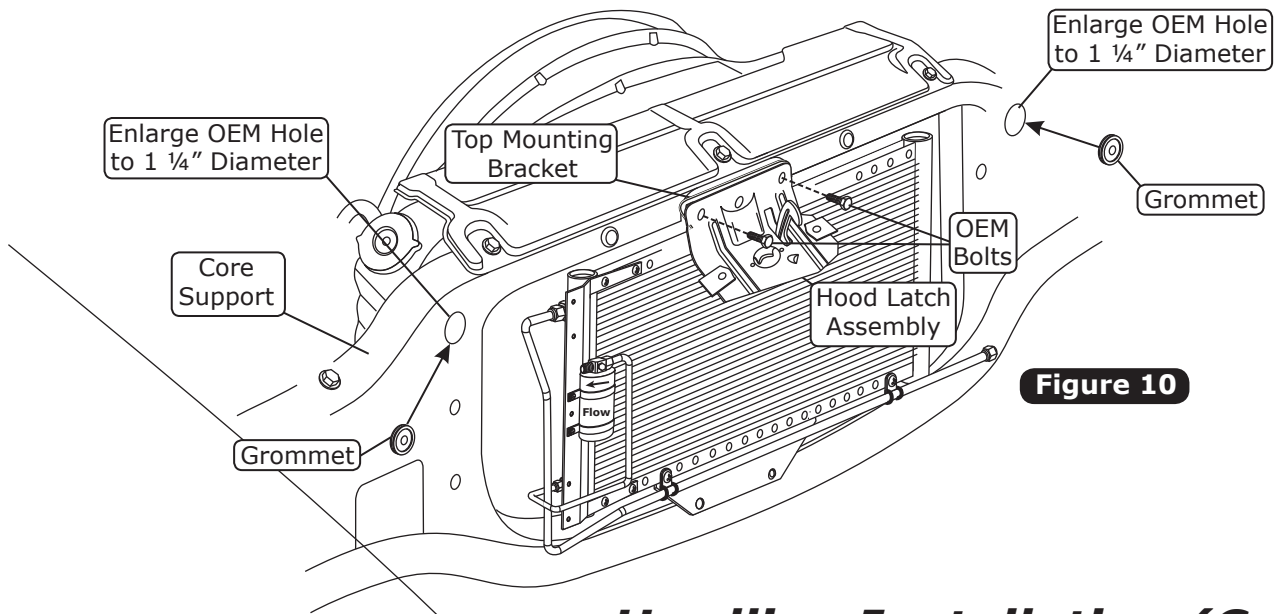

Figure 10
1. Reinstall the hood latch assembly using the OEM bolts. Install the OEM bolts through the hood latch assembly, top mounting bracket and core support (See Figure 10, below).
2. Enlarge OEM holes on core support to 1 ¼" diameter as shown in Figure 10, below. **NOTE: For cars without factory air, see the core support modification instructions on Page 6.**
3. Install (2) grommets into the 1 ¼" diameter holes on the core support as shown in Figure 10, below.